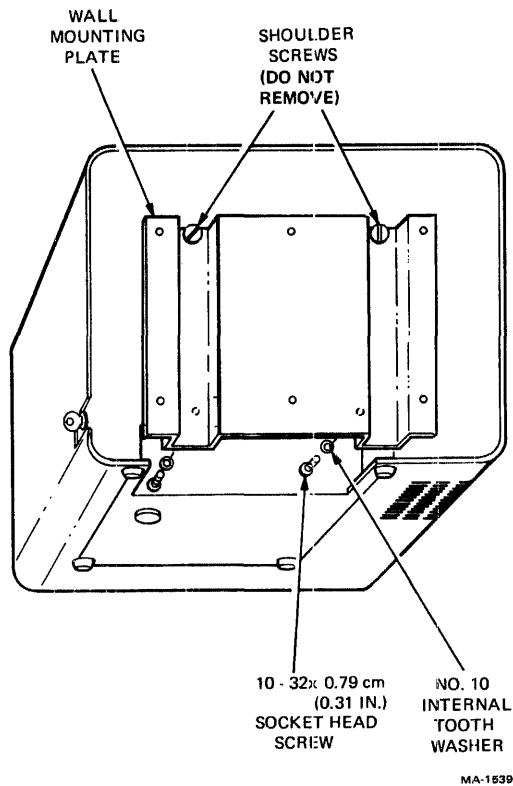

Figure 2-1 Wall Mounting Hardware Details
2. Place the DPM01 on its front on a padded surface and remove the two (2) 10-32 socket head screws and lockwashers securing the bottom of the wall mounting bracket to the cabinet. (See Figure 2-1.)